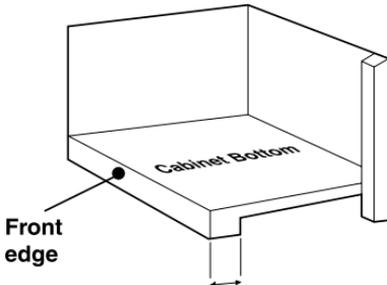

Figure 1
- Measure the thickness "T" of the cabinet overhang (see Figure 1).